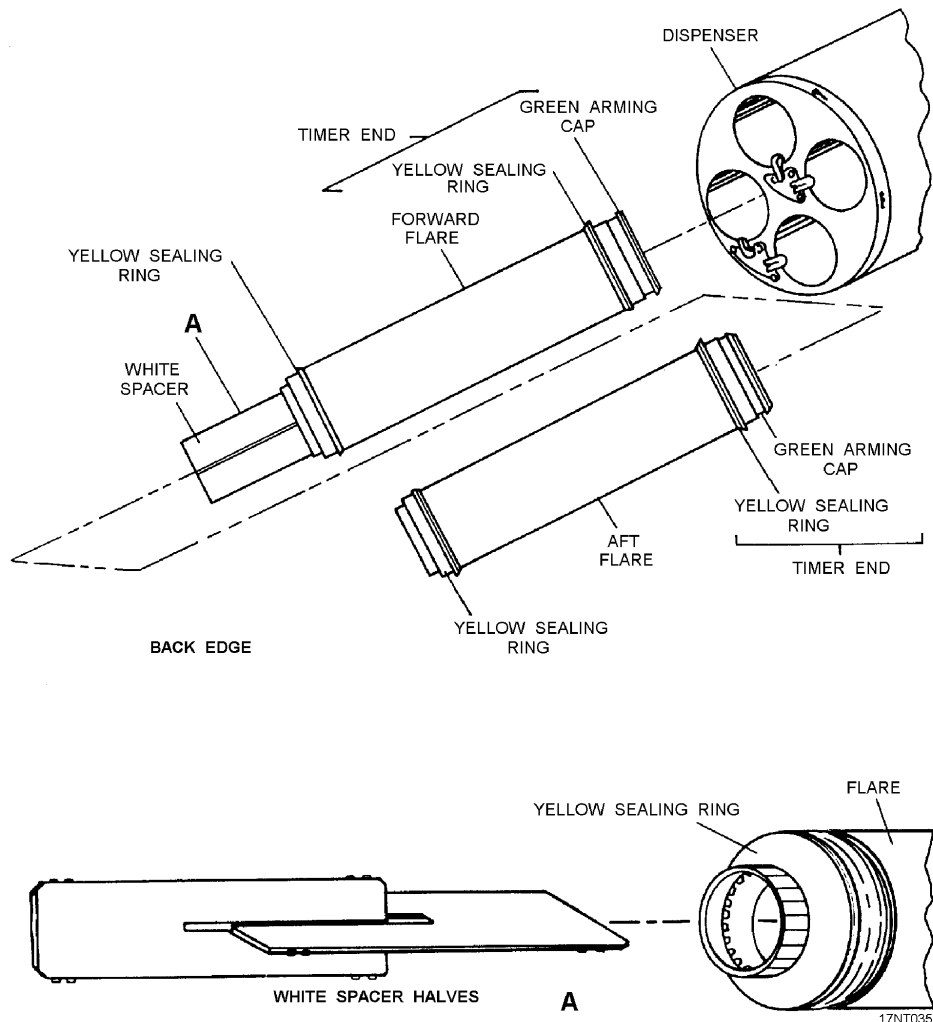

Figure 13-28.—Installation of spacer assemblies on flares.
8. Place the two halves of the white spacer together and install on the aft end of the forward flare (fig. 13-28).